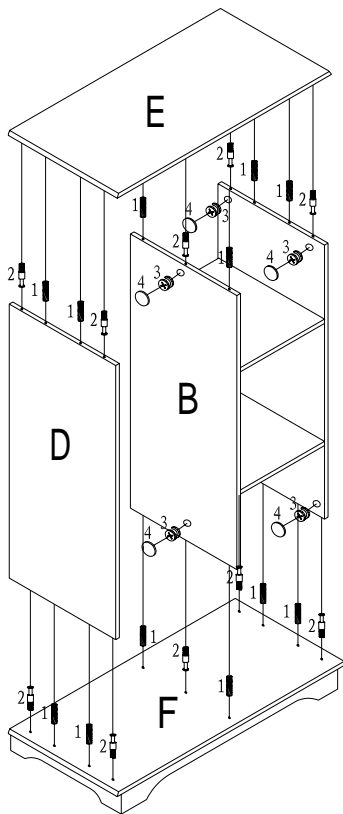

FIGURE 3
5. INSERT WOOD DOWELS (1) AND CAM-BOLTS (2) INTO PREDRILLED HOLES ON UPSIDE OF BASE (F), WITH AN ASSISTANT, INSERT WOOD DOWELS (1) AND CAM-BOLTS (2) EXTENDING FROM BASE (F) INTO CORRESPONDING HOLES ON BOTTOM EDGES OF PARTS (A, B, D). INSERT CAM-LOCKS (3) INTO BIG HOLES ON INSIDE OF PARTS (A, B, D) WITH SLOT FOR SCREWDRIVER FACING OUTWARD. ROTATE CAM-LOCKS (3) CLOCKWISE TO SECURE CAM-BOLTS (2). PUSH COVERS (4) INTO CAM-LOCKS (3). ASSEMBLE TOP PANEL (E) IN SAME MANNER. AS FIGURE 3 SHOWN.